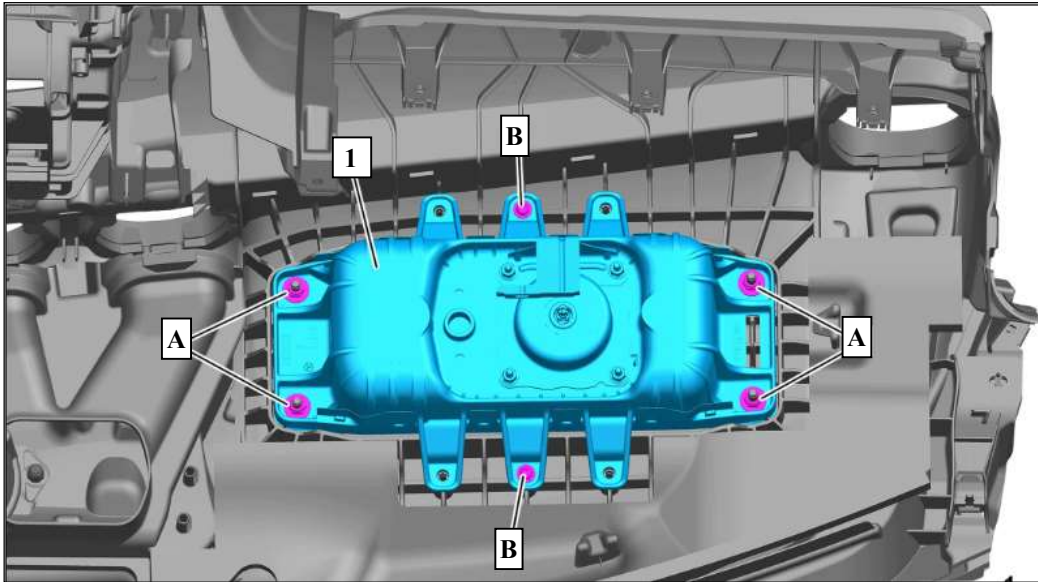

Figure 1
2. Loosen the nuts and screws for the front passenger side airbag (**Figure 1, 1**), and torque to spec.
Nm Loosen and torque the four nuts (**Figure 1, A**) to 5 Nm.
Nm Loosen and torque the two screws (**Figure 1, B**) to 4 Nm.